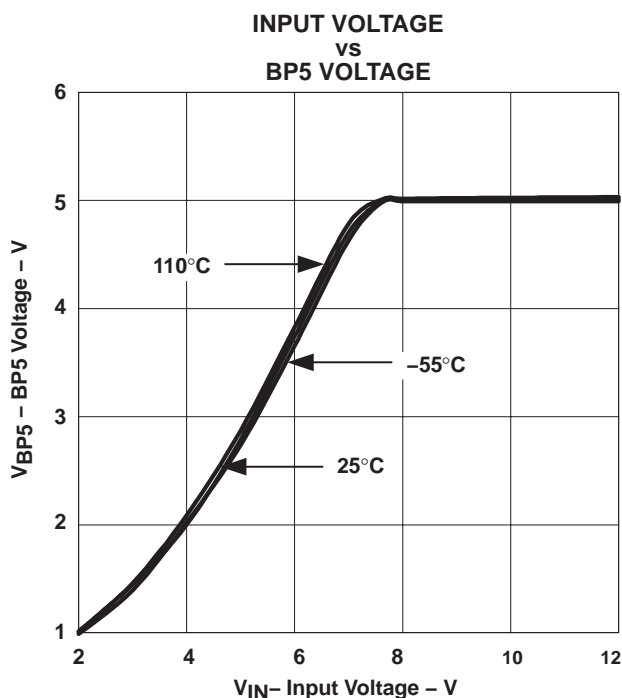

Figure 6.
Start-up characteristics of the BP5 and BP10 regulators over different temperature ranges are shown in Figures 6 and 7. Slight variations in the BP5 occurs dependent upon the switching frequency. Variation in the BP10 regulation characteristics is also based on the load presented by switching the external MOSFETs.
The second tier consists of a fault counter. The fault counter is incremented on an overcurrent pulse and decremented on a clock cycle without an overcurrent pulse. When the counter reaches seven (7) a restart is issued and seven soft-start cycles are initiated. Both the upper and lower MOSFETs are turned off during this period. The counter is decremented on each soft-start cycle. When the counter is decremented to zero, the PWM is re-enabled. If the fault has been removed the output starts up normally. If the output is still present the counter counts seven overcurrent pulses and re-enters the second-tier fault mode. See Figure 6 for typical overcurrent protection waveforms.